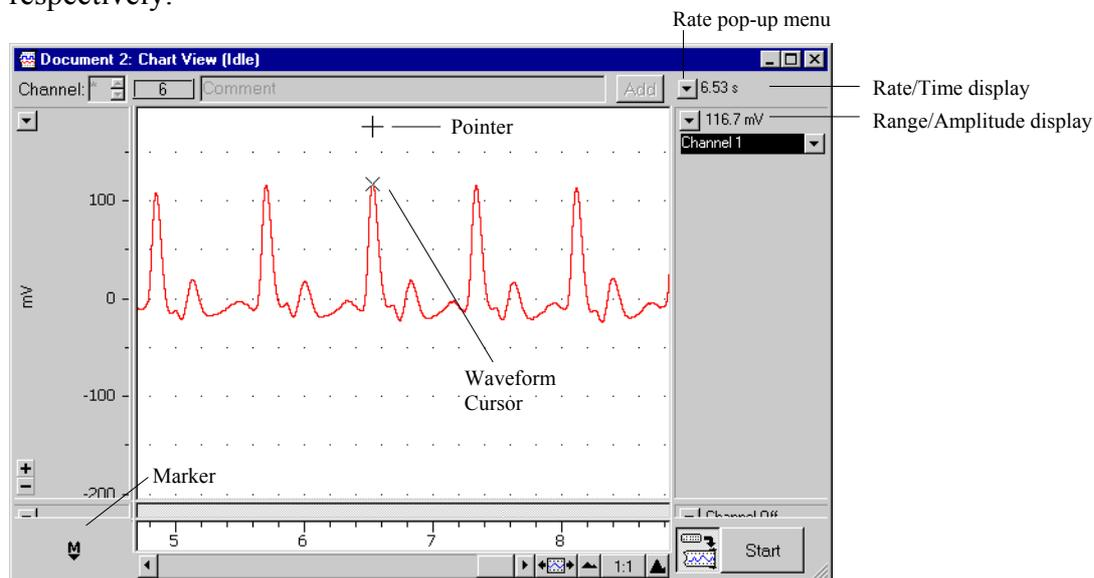

Figure 10. Measuring values with the Waveform Cursor.
2. Move the pointer from left to right: the Waveform Cursor tracks the signal. As you do this, the values displayed at the top right of the window change. The top value (in the Rate/Time display) shows the time at the pointer (and Waveform Cursor) location, and the value below (in the Range/Amplitude display) shows the amplitude of the signal at that time (Figure 10).